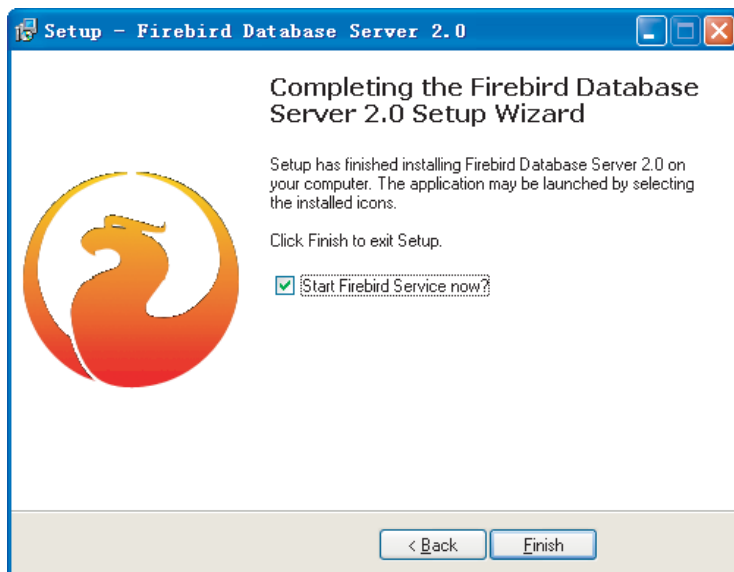

Fig. 2-13
11) Installation window as Fig. 2-13, click “Finish” to finish the installation.